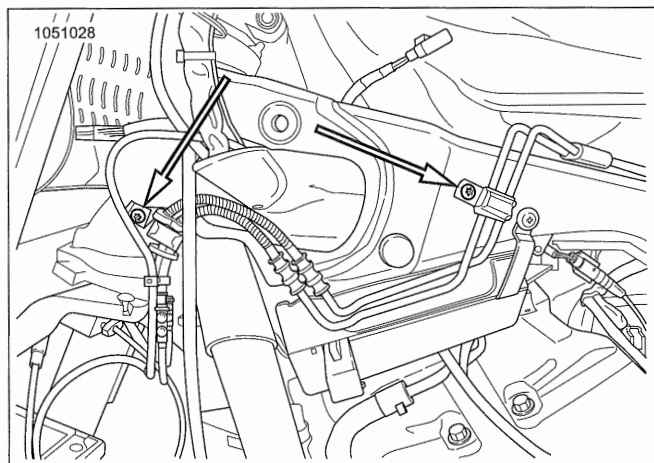
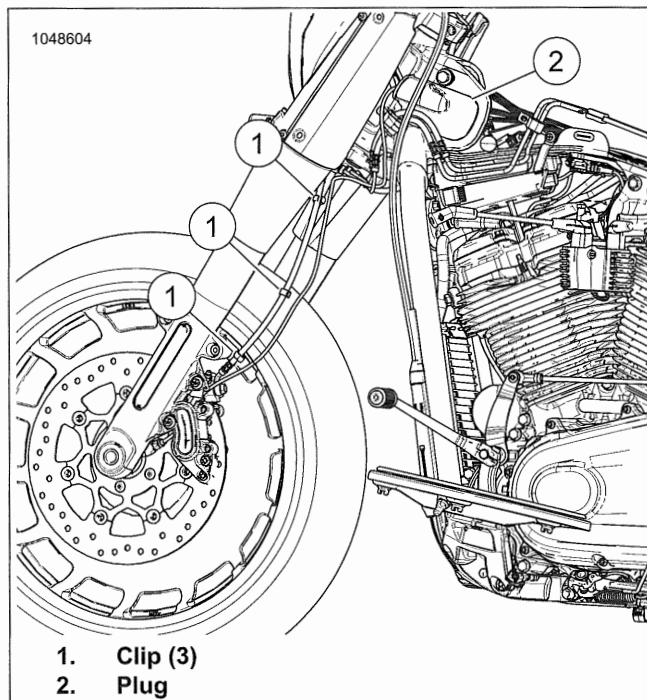
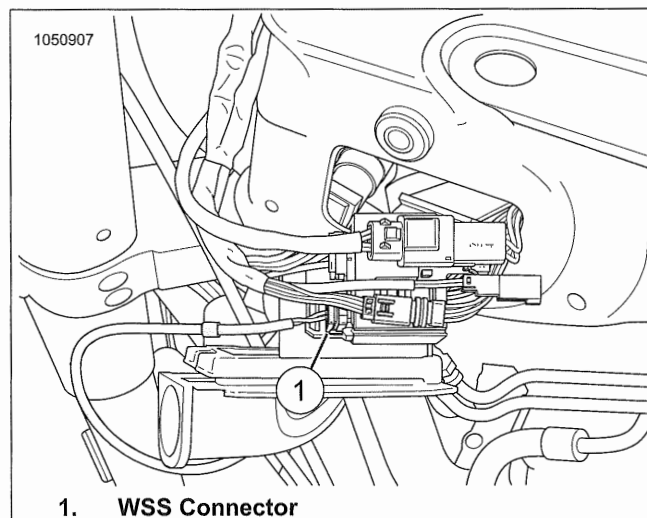

Figure 7-131. Brake Line Clamps
Figure 7-132. Front Wheel Speed Sensor
Figure 7-133. Front Wheel Speed Sensor Connector
2. See Figure 7-131. Remove brake line clamp screws.
3. See Figure 7-132. Detach WSS wire from clips (1).
4. Remove frame plug (2).
5. See Figure 7-133. Disconnect connector (1).
2. See Figure 7-133. Connect connector (1).
3. See Figure 7-132. Install frame plug (2).
4. Attach WSS wire to clips (1).
5. See Figure 7-131. Install brake line clamp screws.